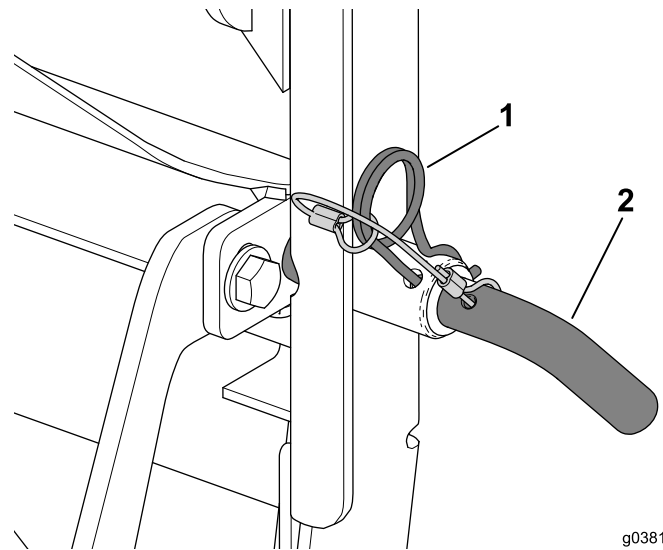

Figure 18
2. Insert the lock pin through the bagger frame and cross brace (Figure 18).
3. Use the hairpin cotter to secure the lock pin (Figure 18).